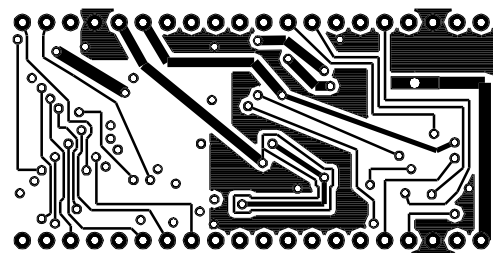

Figure 6. Shield Layer ( Not to scale ).
- The layer below called “shield” is shown in figure 6.